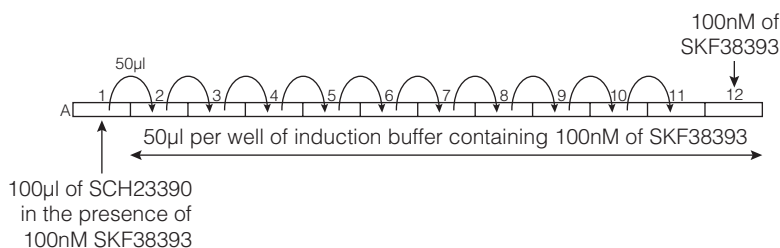

Figure 9. Dilution scheme for the antagonist SCH23390.
5. Prepare a twofold dilution of antagonist SCH23390 by transferring 50 μ l from well A1 to well A2 with a pipette, pipetting to mix. Transfer 50 μ l to well A3. Repeat for wells A4 through A11. See Figure 9. Discard the extra 50 μ l from well A11. Do not add SCH23390 to the no-antagonist control reactions in well A12.